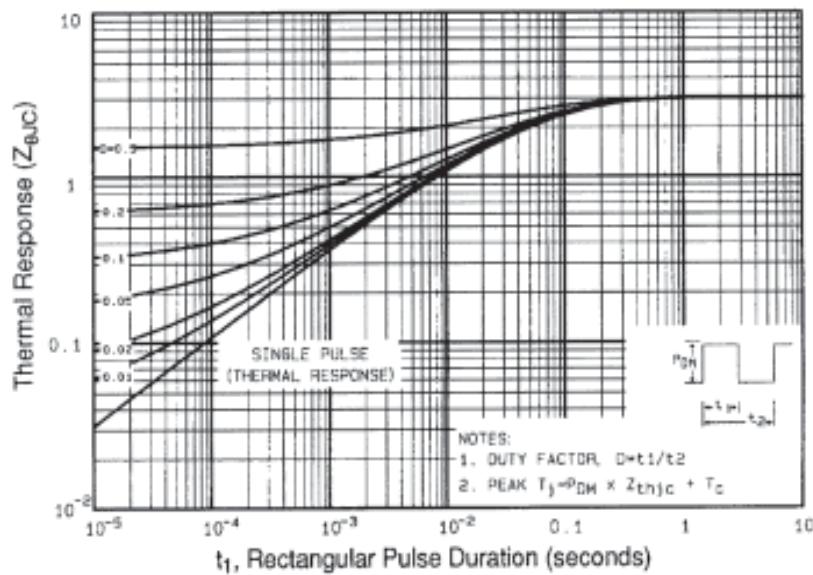

Fig 11. Maximum Effective Transient Thermal Impedance, Junction-to-Case
① Repetitive rating; pulse width limited by max. junction temperature (See Figure 11)
② $V_{DD}=25V$, starting $T_J=25^\circ\text{C}$, $L=541\mu H$